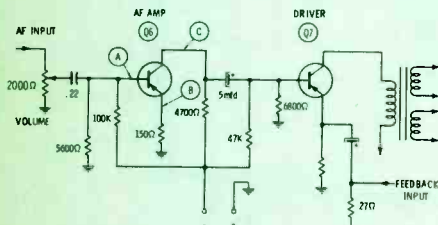

Fig. 1. Varying emitter voltage causes noise unaffected by volume control.
Decision: Since noise does not decrease as volume is reduced, it must be in audio stages (Fig. 1).
Step 3: Zero-bias Q7 (Fig. 1) by shorting base to emitter with a jumper, wire, or screwdriver.